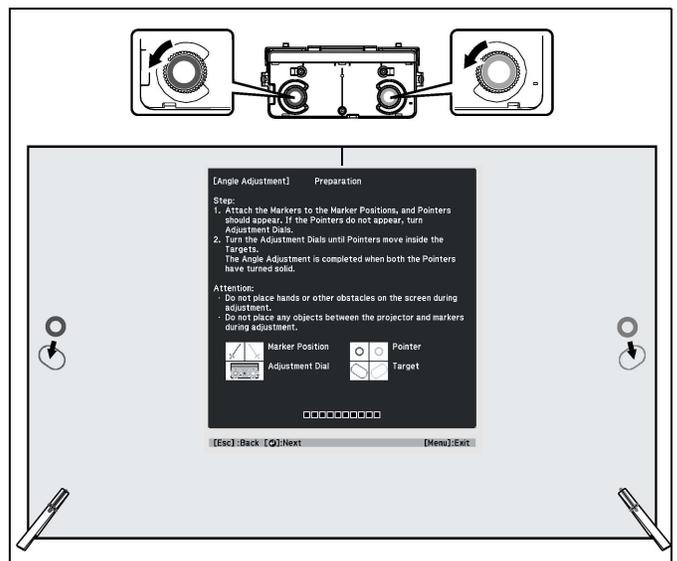

Figure 42
**NOTE:** Turning an adjustment dial **counterclockwise** moves the circle diagonally **down** away from the center of the projected image. (See Figure 42)